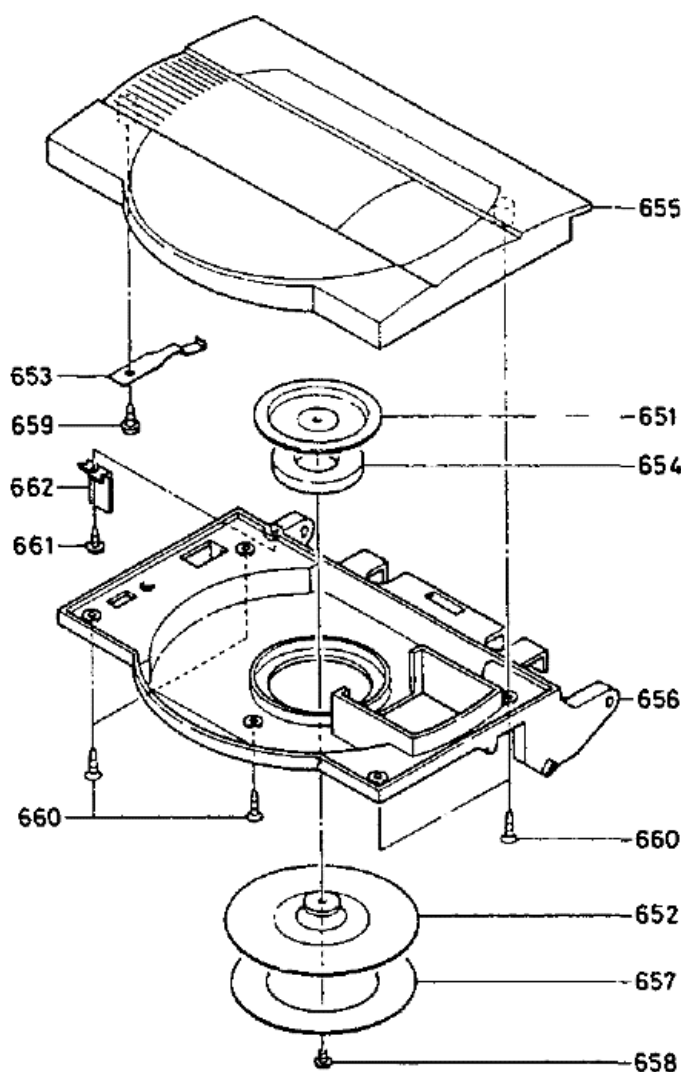

FIGURE 17-19 How the CD turntable and top lid are mounted in a CD case.
In the standard CD player, a loading motor slides out to load the disc. In the portable CD/cassette player, push a button and the top lid raises up or comes out from the front so that the disc can be loaded. The lid is pushed down or in to load the CD manually (Fig. 17-19). The top lid (655) is hinged at the back so that the disc can be placed on the turntable of the disc motor assembly.